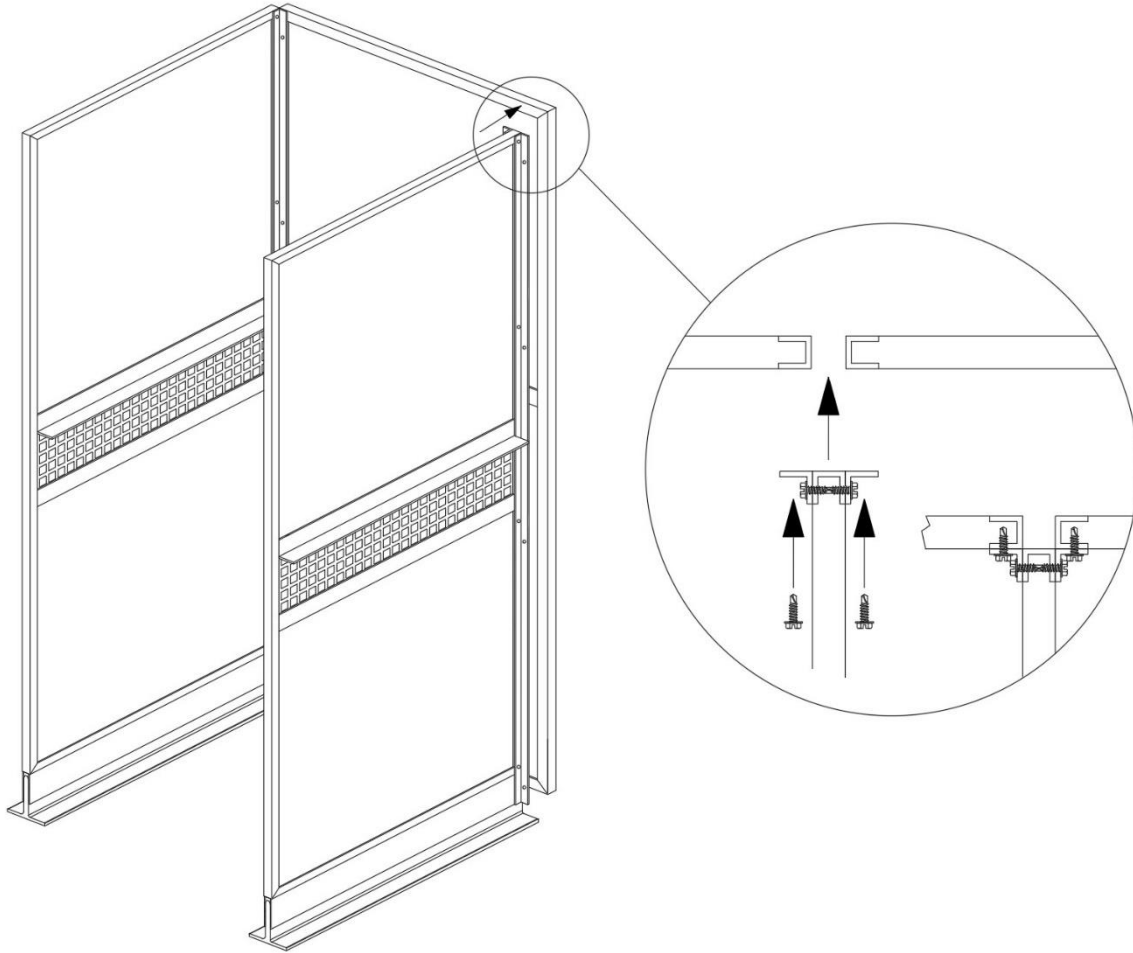

Figure D.3
6. Position the next division panel in place and connect with the #10-32 x 5/8" TEK screws provided. (Figure D.3).